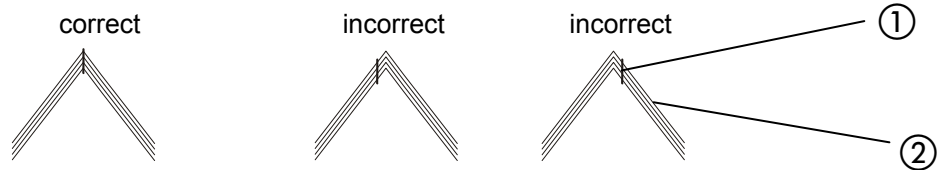

Fig. 17
The spine centering parts are only used for saddle stitching. They help to precisely position the stitch ① in the center of the sheet fold ② (cf. Fig. 17)